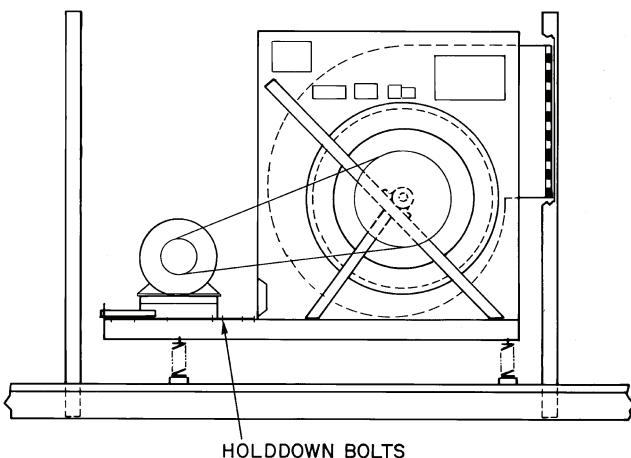

Fig. 44 — Motor Plate Adjustment
1. Loosen holddown bolts. (See Fig. 44.)